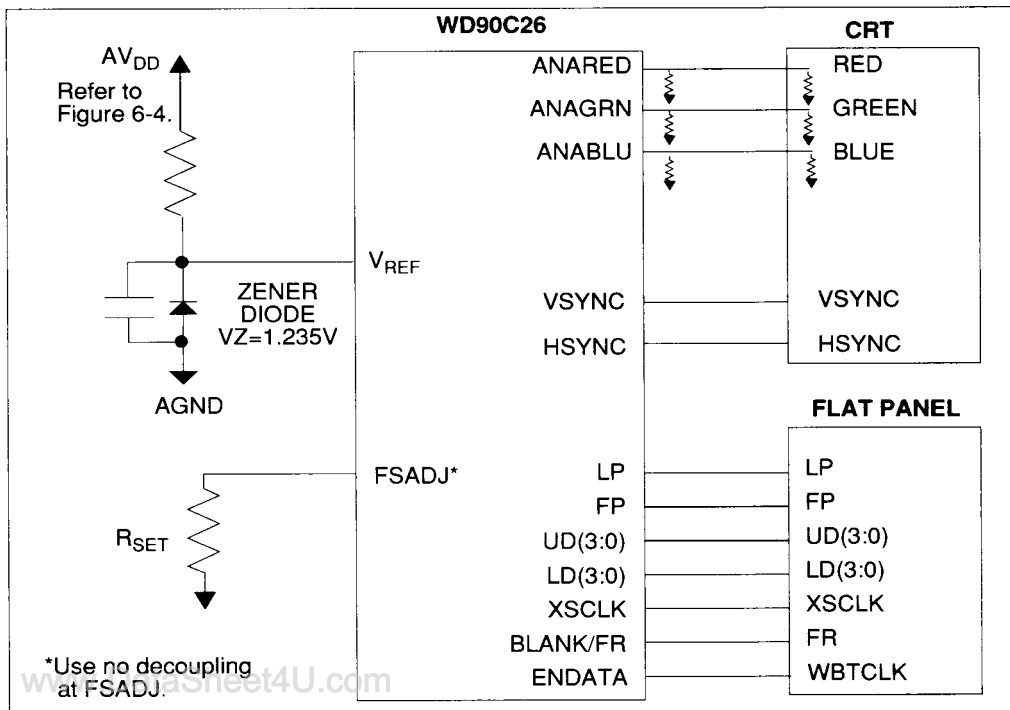

FIGURE 6-27 EXAMPLE OF CRT INTERFACE SHOWING  $V_{REF}$  AND FSADJ CIRCUITS
- Calculating the  $R_{SET}$  Value (Figure 6-27)